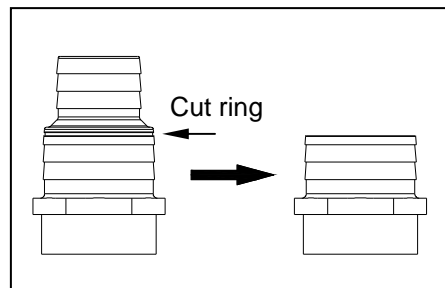

Fig. 1
1. For maximum water flow, it is recommended that the largest tubing size for your pump is used. If using 1-1/2 in. ID tubing, proceed to step 2. If using 2 in. ID tubing, cut the adapter as shown using a hacksaw. Fig. 1